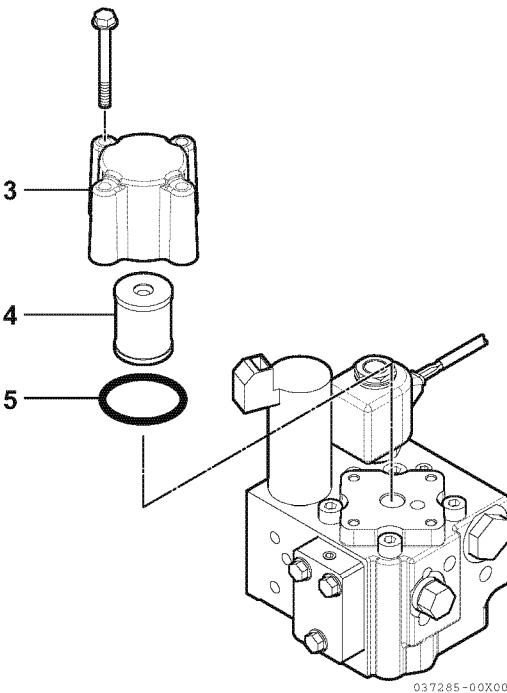

Figure 5
2. Remove filter element housing (3, **Figure 5**).
3. Remove filter element (4, **Figure 5**).
4. Remove and replace O-ring (5, **Figure 5**).